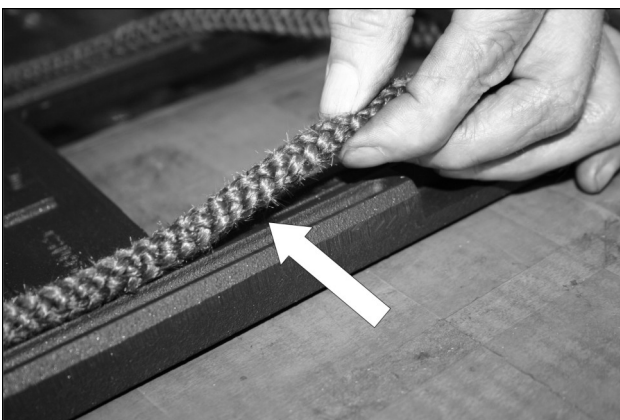

Fig. 12. Rope Replacement
- Press the rope gasket into the channel on the rear of the door casting, following the same layout as the old rope seal. See Fig. 12.